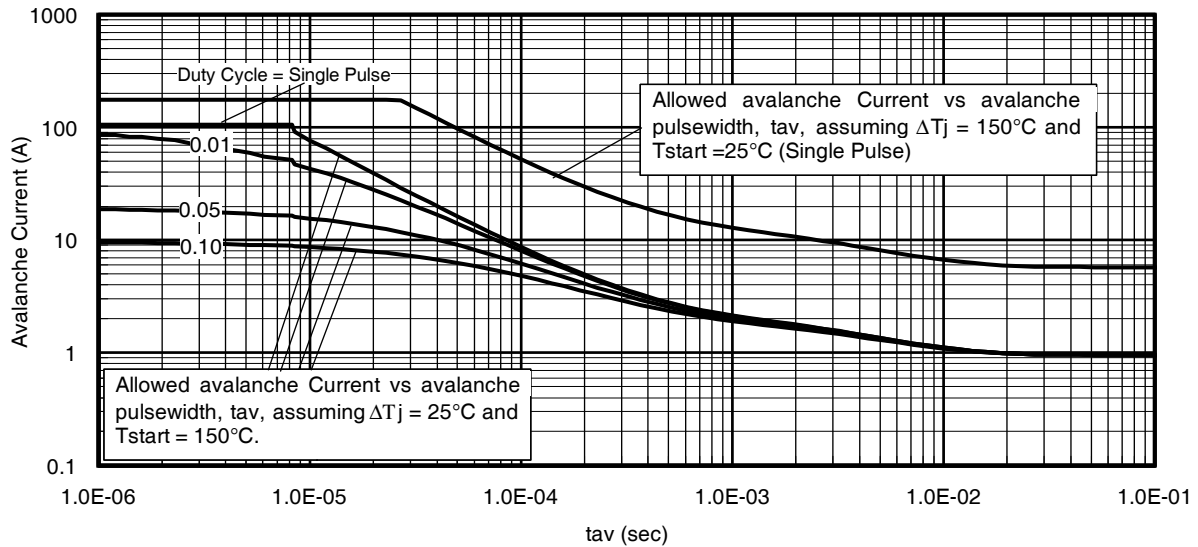

Fig 14. Typical Avalanche Current vs. Pulsewidth
Notes on Repetitive Avalanche Curves , Figures 14, 15:
- ΔT = Allowable rise in junction temperature, not to exceed T_{jmax} (assumed as 25°C in Figure 14, 15).